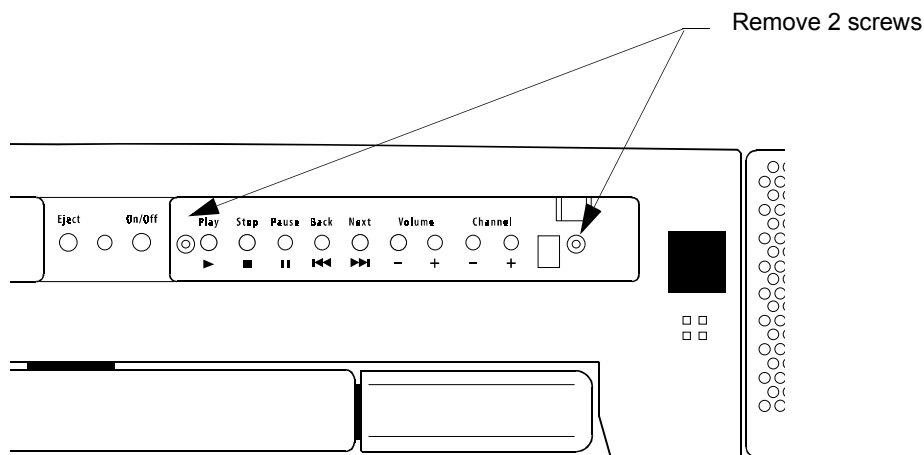

Figure 4-4 Push button panel, shown with door open
1. On the front panel, open the push button door (push PUSH). Remove 2 hex screws (Figure 4-4).